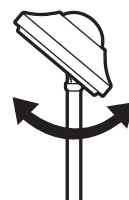

Fig. 8
4. To tilt lamp head toward you or away from you – simply move head to desired position. (Fig. 8)